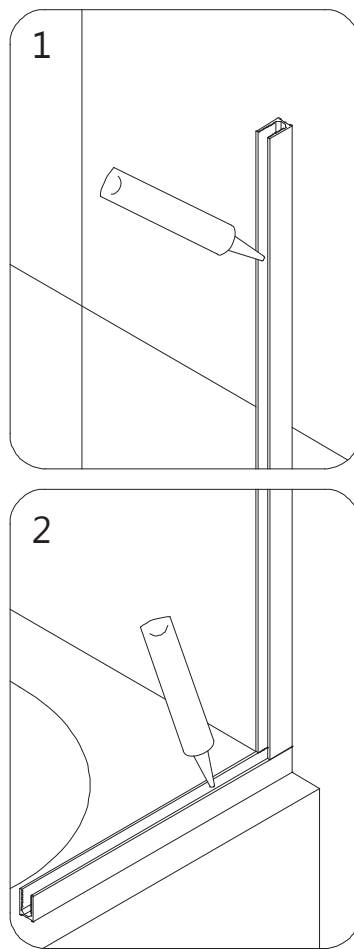

Fig 5
4. Apply waterproof silicone into both U-Channels. (Fig 5)